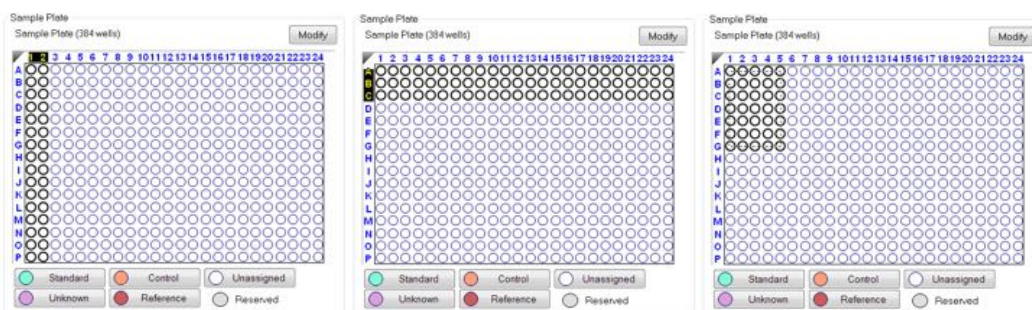

Figure 7-13: Selecting Wells in the Sample Plate Map
- Click a column header or select adjacent column headers by click-hold-drag (Figure 7-13 left). To select non-adjacent columns, hold the **Ctrl** key and click the column header.
- Click a row header or select adjacent row headers by click-hold-drag (Figure 7-13, center).
- Click a well or draw a box around a group of wells (Figure 7-13, right).